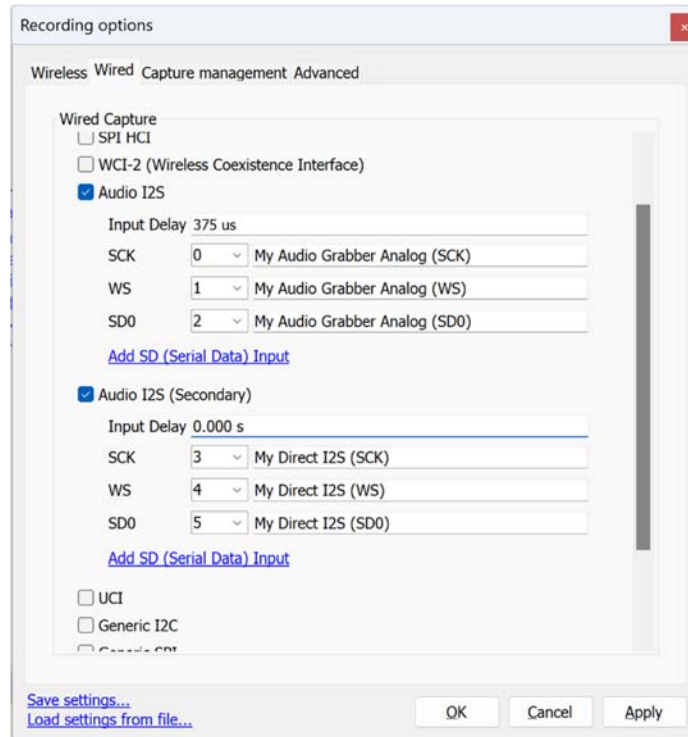

Figure 9 - Recording Options Setup for Audio I2S Inputs and Input Delay
- In Recording Options, assign primary Audio I2S inputs as shown in Figure 9. The analog inputs to the Audio Grabber are converted to I2S and are hardwired to I/Os 0 (SCK), 1 (WS), and 2 (SD0) as shown on the Audio Grabber PCB and as shown below in Figure 9. The Input Delay shall be set to 375 us.